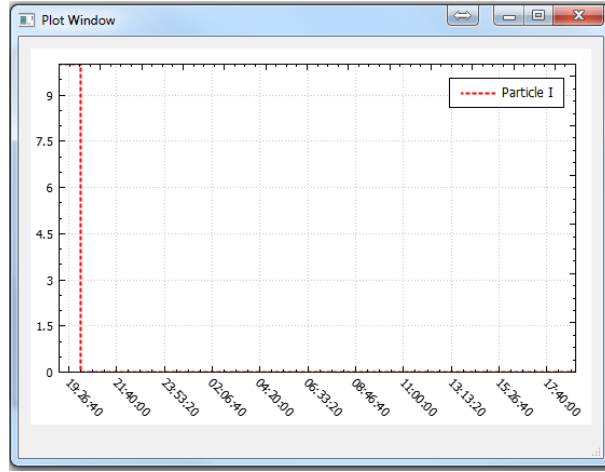

Figure 4.2: Concentration of Particle I in the inflow
**Plot Inflow Properties** menu item. The inflow concentration for particle I for example should look like Figure 4.2